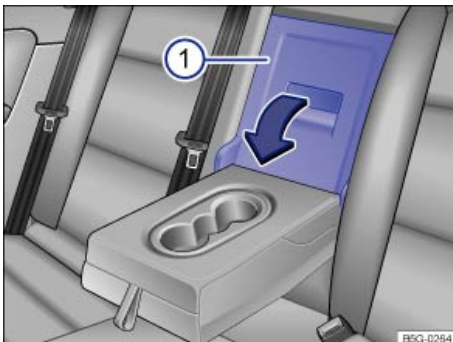

Fig. 92 In the rear seat backrest: Opening the luggage compartment pass-through.
- Pull the release lever ⇒ fig. 92 \(1\) in the direction of the arrow and fold the pass-through cover all the way forward.